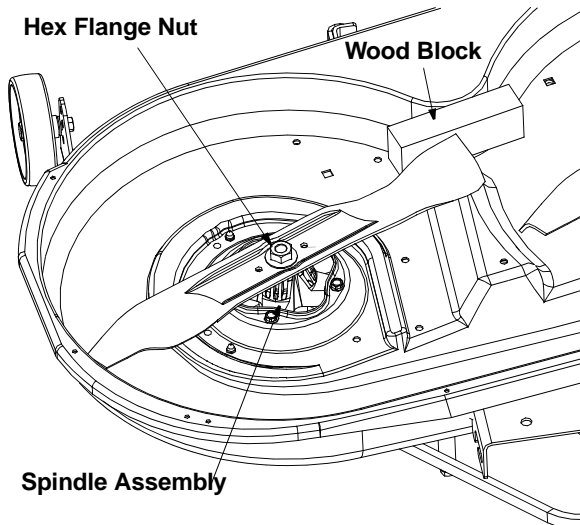

Figure 5
- Place a block of wood between the center deck housing baffle and the cutting blade to act as a stabilizer. See Figure 5.
- Use a 15/16" wrench to remove the hex flange nut that secures the blade to the outer blade spindle assembly. See Figure 5.